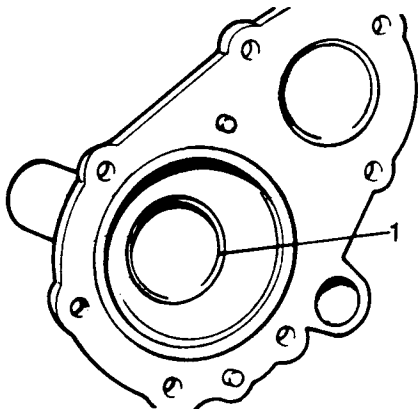

Fig H1.23
(2) Refer to Fig H1.23. Remove the oil seal (1) which is housed in the inside of the cover.
(3) Fit a new oil seal in the cover. The spring must be towards the operator and apply oil SAE 90 EP on the spring lip.